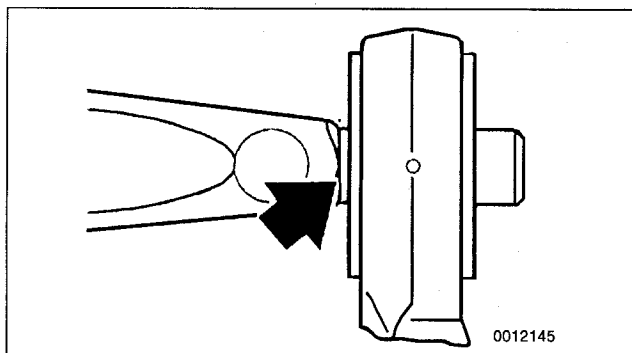

Fig. 11. Before removing bushing from control arm, mark installed position of old bushing to control arm. Install new bushing in same position.
3. Mark installed position of bushing to control arm. See Fig. 11.